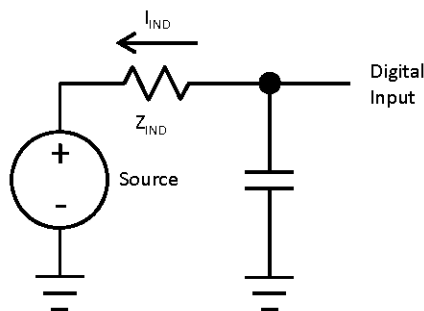

Figure 2. 5 V Tolerant Input IIND Parameter
5. Examples calculated using V_{IL} relation, V_{DD} , and max I_{IND} : $Z_{IND} = V_{IL} / I_{IND}$. This is the impedance needed to pull a high signal to a level below V_{IL} due to leakage when $V_{IL} < V_{IN} < V_{DD}$. These examples assume signal source low = 0 V. See Figure 2.